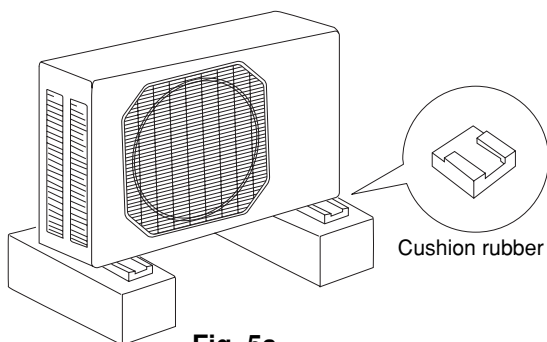

Fig. 5c
- Install cushion rubber under unit's feet to reduce vibration and noise. (Fig. 5c)